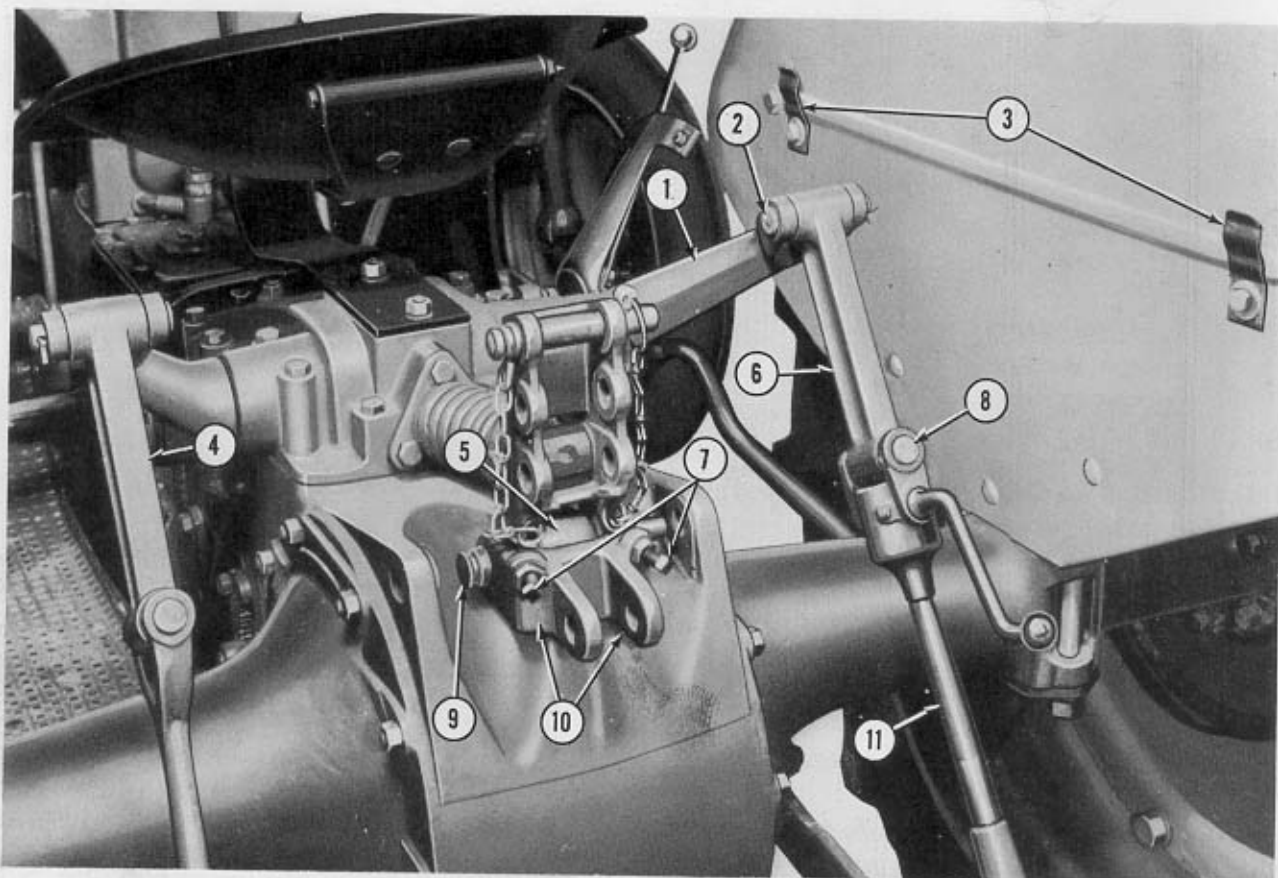

Figure 12
19. Attach the extension arms (4) and (6), Figure 12, to the tractor leveling rods as follows:
- a. Remove the knuckle from between the tractor lift arm (1), Figure 12, and the leveling rod (11).
- b. Replace the knuckle with an extension arm (6) as shown in Figure 12.
- c. Attach the extension arm with the pins (2) and (8) which are provided with the tractor, and secure with cotter pins.
- d. Attach the extension arm (4), Figure 12, to the other lift arm in the same manner.
20. Attach the mower top link bracket (10), Figure 12, to the lug (5) on the tractor center housing as follows:
- a. Position the top link bracket (10) on the lug (5) as shown in Figure 12 and secure with the 5½" pin (9) and ¼" cotter pin provided.
- b. Tighten the two set screws (7) against the rocker assembly and secure with jam nuts.
21. Attach the transport rod clips (3) to the tractor fender with the lower two fender bolts as shown in Figure 12.